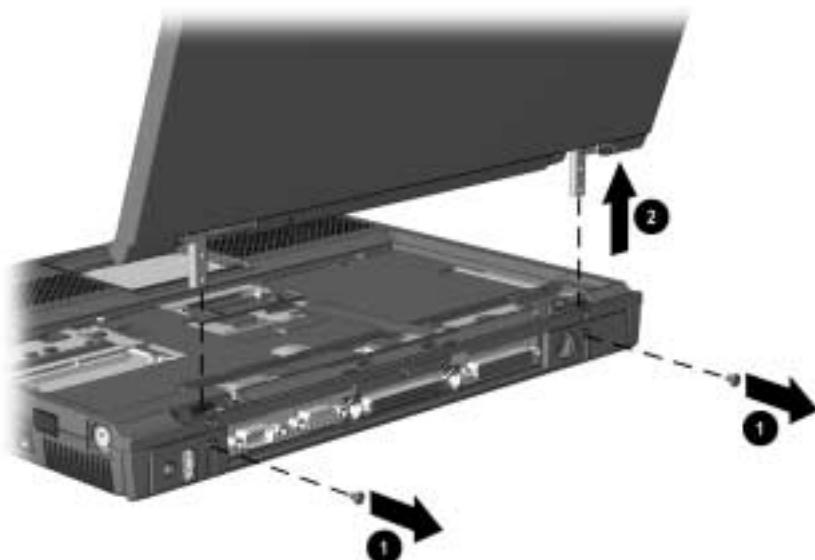

Figure 5-15. Removing the Display Assembly
13. Remove the two screws that secure the display assembly to the base enclosure ① (Figure 5-15).